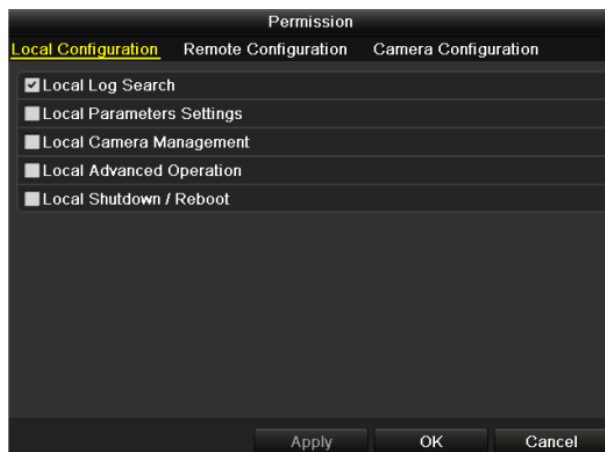

Figure 15-8 User Permission Settings Interface
Step 5 Select the user from the list and then click the button to enter the Permission settings interface, as shown in Figure 15-8.